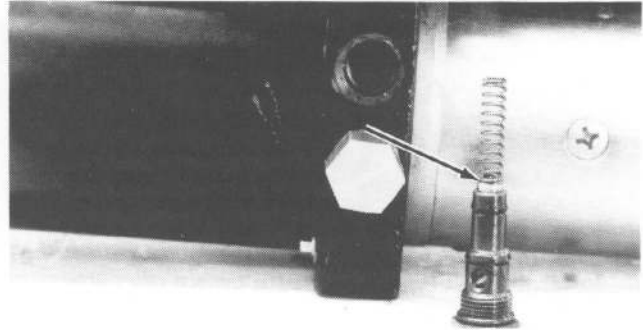

Figure 2-8
1. Remove the check valve, ball and spring. See Figure 2-8.